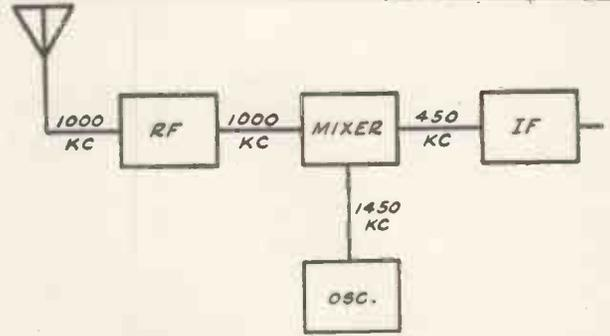

Fig. 1. This block diagram shows where the frequency of the signal is changed before going through the I.F. amplifier.
**S**IGNAL tracing in oscillator circuits differs from that in other parts of the receiver in that the signal to be checked is generated by the set oscillator and not supplied by an external signal generator. In some sets, the heterodyning oscillator signal is developed by a separate valve and circuit which is coupled to the mixer circuit; in other sets, the functions of the mixer and oscillator are combined within a single valve. No matter which system is used, the purpose of the oscillator is to provide a signal of the proper frequency to combine with the incoming R.F. signal and produce, in the mixer, the intermediate frequency at which the I.F. amplifier is designed to operate. This is illustrated in the block diagram, Fig. 1. In this diagram, the R.F. signal in the aerial circuit has a frequency of 1,000 kc. The intermediate-frequency amplifier is designed for a 450 kc. signal. We can produce an I.F. signal of such frequency by tuning the oscillator to